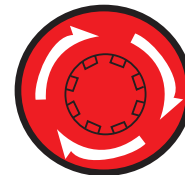

Figure 66. Emergency Stop Switch
1. To stop the engine in the event of an emergency, press the **Emergency Stop switch** (Figure 66), located on the side of the generator next to the output terminal panel.